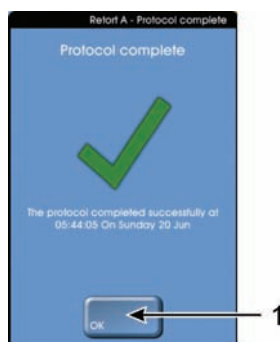

Figure 64: Protocol complete dialog with OK button (1)
- The "Protocol complete" dialog appears when the run is finished; select the **OK** button to continue (see Figure 64).